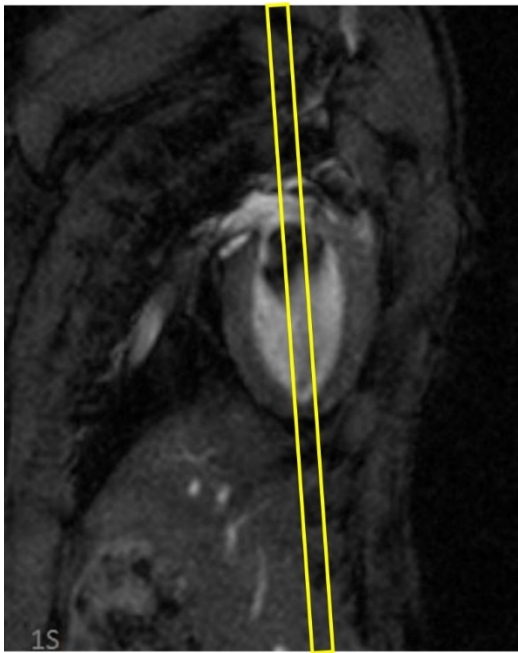

Figure 5: Planning of the four-chamber long-axis measurement.
- Load the apparent long-axis view (from the 2. *Scout_2CH* acquisition) and plan as shown in **Figure 5**.
- Move and rotate the slice so that it goes through the apex and in between the valves (green dots in **Figure 5**).